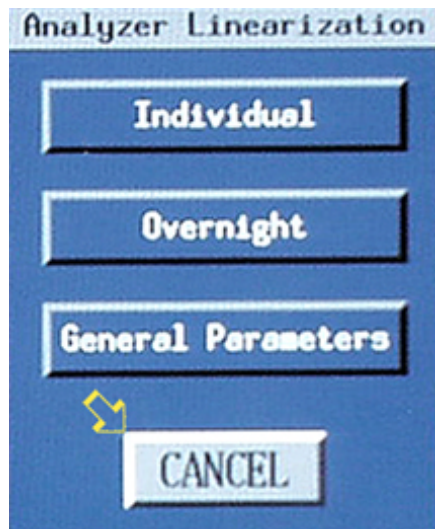

Figure 52
- 164 On the “Analyzer Linearization,” sub-panel, click on “Cancel.” See the arrow in Figure 52.